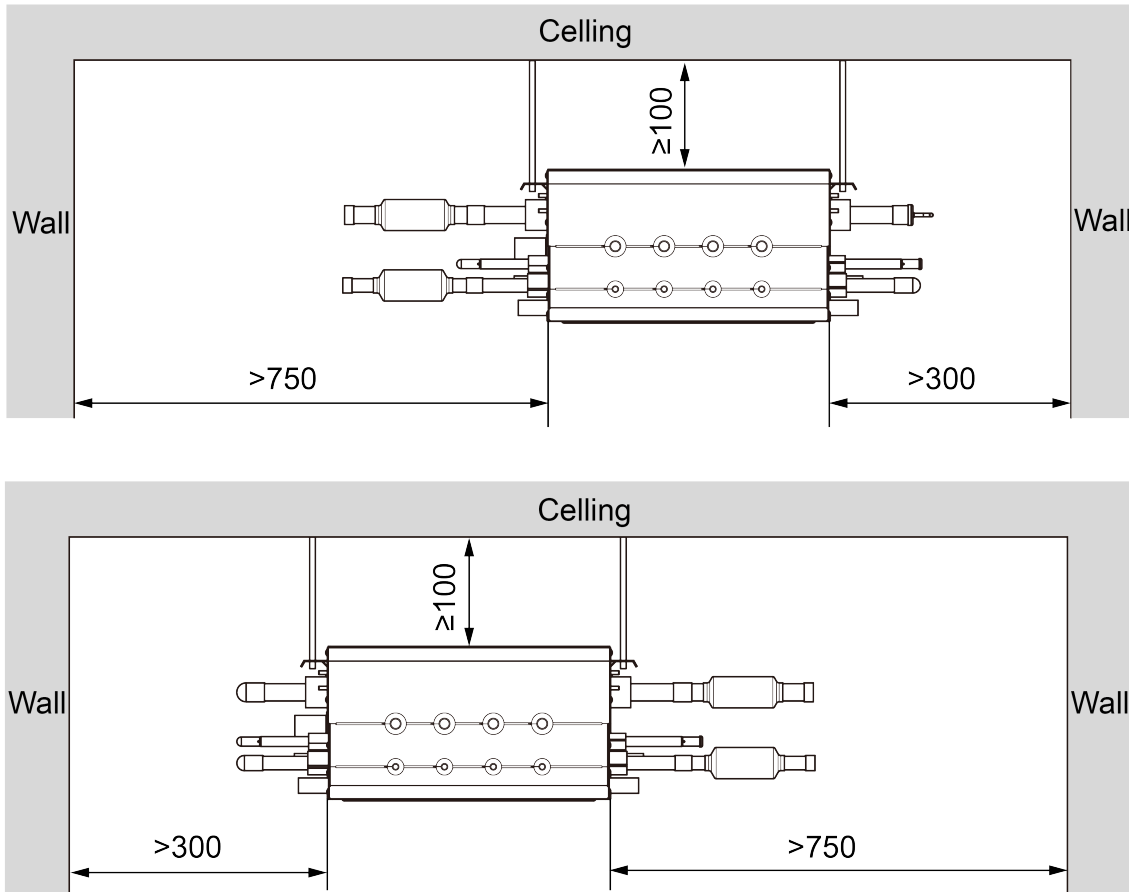

Fig.3.2.1
- (1) Make sure the hanging parts can hold the weight of unit.
- (2) Water can be drained out from the drainage hose conveniently.
- (3) No obstacles at outlet and inlets. Keep the air ventilation in good condition.
- (4) Connect either left or right side of converter to outdoor unit for piping according to installation space, as shown in the Fig.3.2.1, the space used for maintenance should be ensured.
- (5) Please keep the unit away from those positions where there's thermal source, inflammable gas and smog.
- (6) The unit is the cassette type (concealed type).
- (7) Indoor unit, outdoor unit, mode exchange box power cord and connection cord should be kept 1m above away from TV and radio for preventing graphic interference and noise. (Even the distance is 1m, if there's strong electric wave, there's still noise).